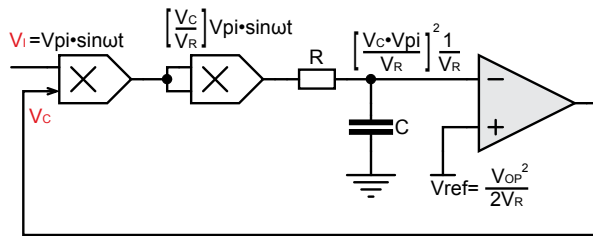
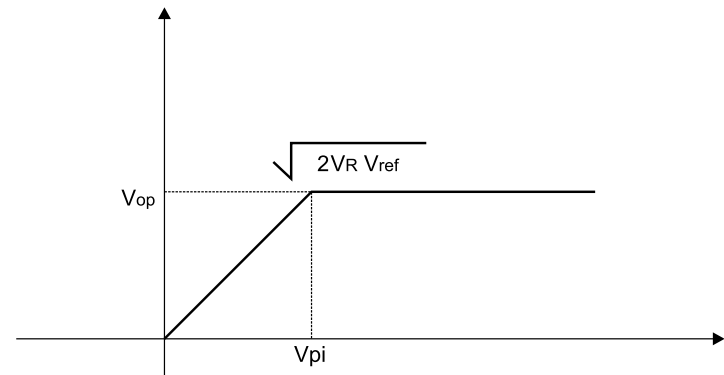

Figure 8.1: Automatic Gain Control (AGC)/Automatic Volume Control (AVC)
Figure 8.2: Input-Output Characteristics of AGC/AVC
In the signal chain of an electronic system, the output of the sensor can vary depending on the strength of the input. To adapt to wide variations in the magnitude of the input, we can design an amplifier whose gain can be adjusted dynamically. This is possible when the input signal has a narrow bandwidth and the control system is called Automatic Gain Control or AGC. Since we may wish to maintain the output voltage of the amplifier at a constant level, we also use the term Automatic Volume Control (AVC). Figure 8.1 shows an AGC circuit. The typical I/O characteristics of AGC/AVC circuit is shown in Figure 8.2. As shown in Figure 8.2, the output value of the system remains constant at  $\sqrt{2V_r V_{ref}}$  beyond input voltage  $V_{pi} = \sqrt{2V_r V_{ref}}$ .
- 1 Simulate the circuit of Figure 8.1 and obtain the Transfer Characteristic of the system. Assume that the input comes from a function generator; use a sine wave input of a single frequency.
- 2 Build the circuit shown on Figure 8.1. Plot/print the transfer characteristic using the oscilloscope and compare it with simulation results.